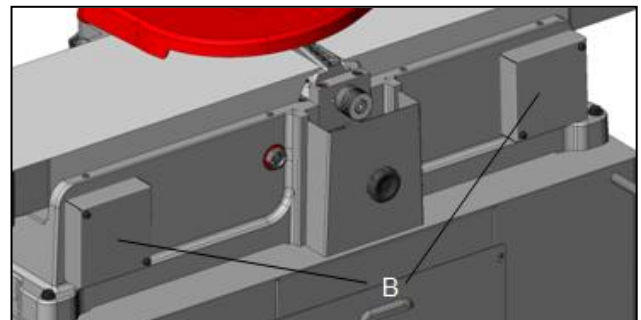

Fig. 17
2. Remove two covers B (Fig. 17) form back of base then repeat step 1.